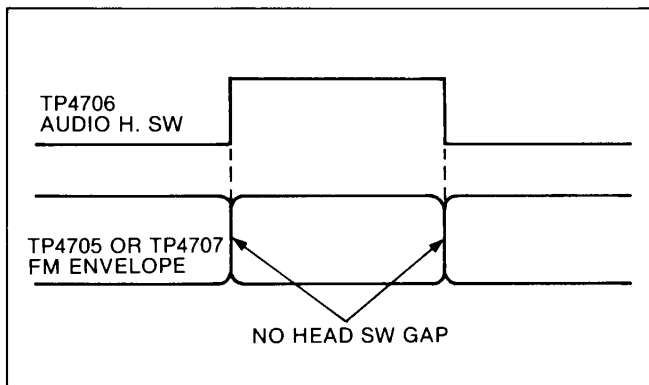

Figure E48
4. Adjust VR4708 so that the head switching gap is not occurred as shown in Figure E48.